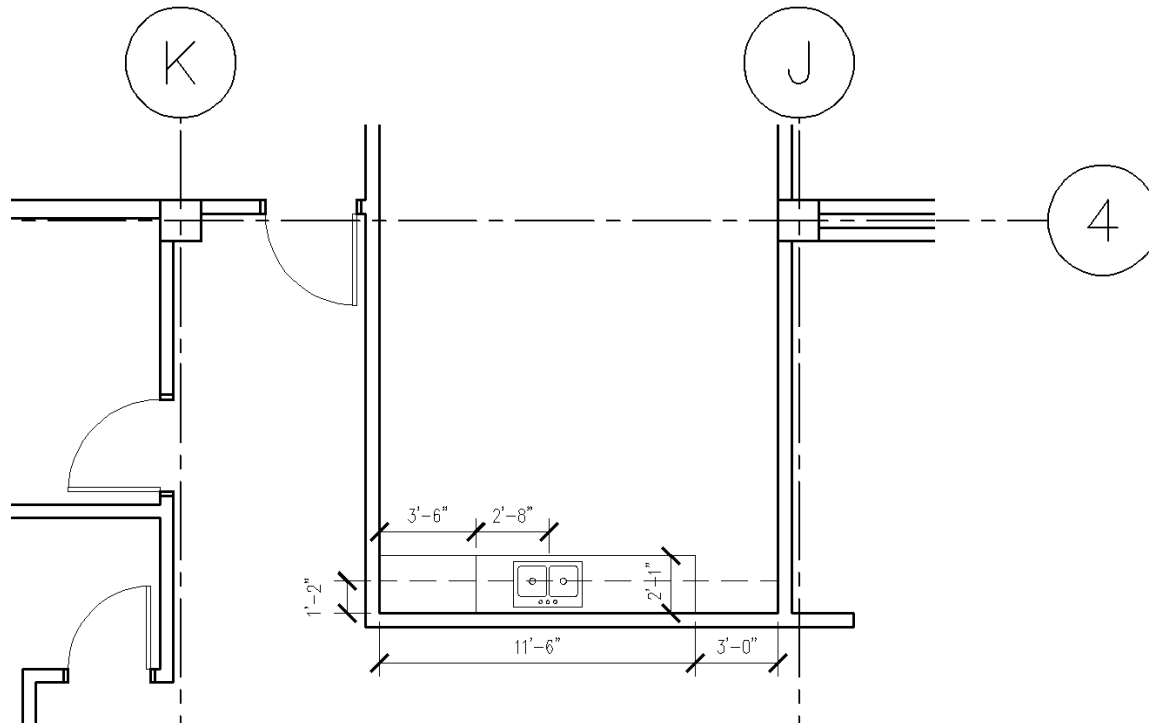

FIGURE 4-2.2 Drawing the break room casework
- Draw the cabinets shown in Figure 4-2.2, *plus*: